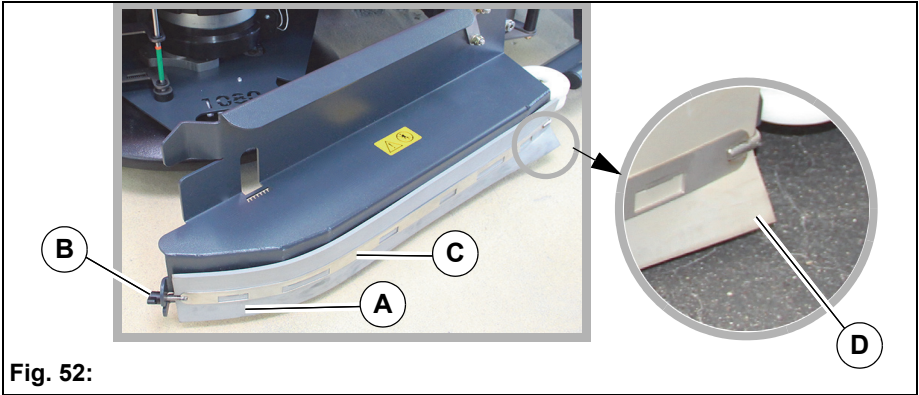

Fig. 52:
Check the rubber of the wiper **Fig. 52-A** weekly for wear, turn or replace the rubber if necessary.
1. Loosen the wing nut **Fig. 52-B**.
2. Remove the clamping band **Fig. 52-C**. Turn the rubber of the wiper (can be used 4 times) or replace it.
During installation, ensure that the corner of the wiper rubber is pointing outwards **Fig. 52-D** so that the wiper rubber folds over outwards during operation.